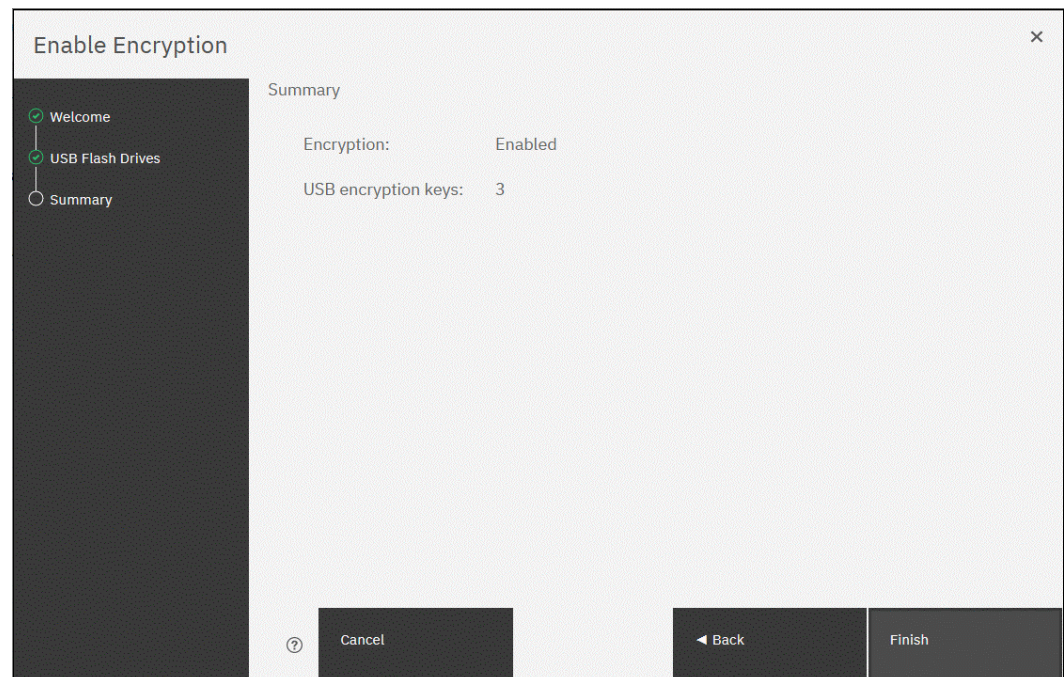

Figure 12-25 Commit the encryption enablement
3. The number of keys that were created is shown in the Summary tab, as shown in Figure 12-25. Click **Finish** to finalize the encryption enablement.